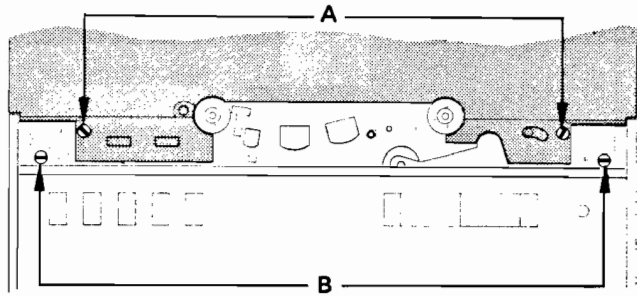

Fig. 3.2–4
- Undo screw A ( fig. 3.2–4 ). Pull cover panel off ( Upper rim, 3 retainers ).
- Undo screws B ( fig. 3.2–4 ). Pull out power switch knob as well as all rotary knobs and discs. Save retaining ring of power switch.